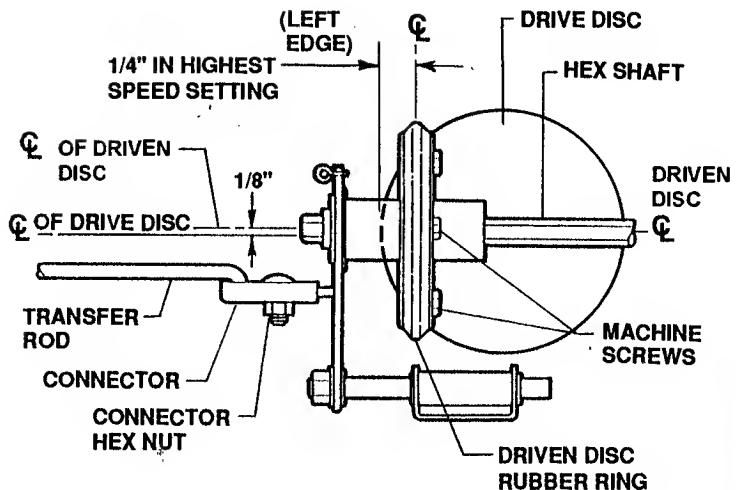

FIGURE 3.13
- Check the dimension from the centerline of the driven disc's rubber ring to the *left* edge of the drive disc. This dimension should be $1/4"$ in the highest speed setting. See Figure 3.13.
(f) To test the tracking adjustment, disconnect the transfer rod (Figures 3.13 & 3.14) and start the engine. If the rubber ring tracks in place approximately halfway between the center and left edge of the drive disc, the adjustment is correct.